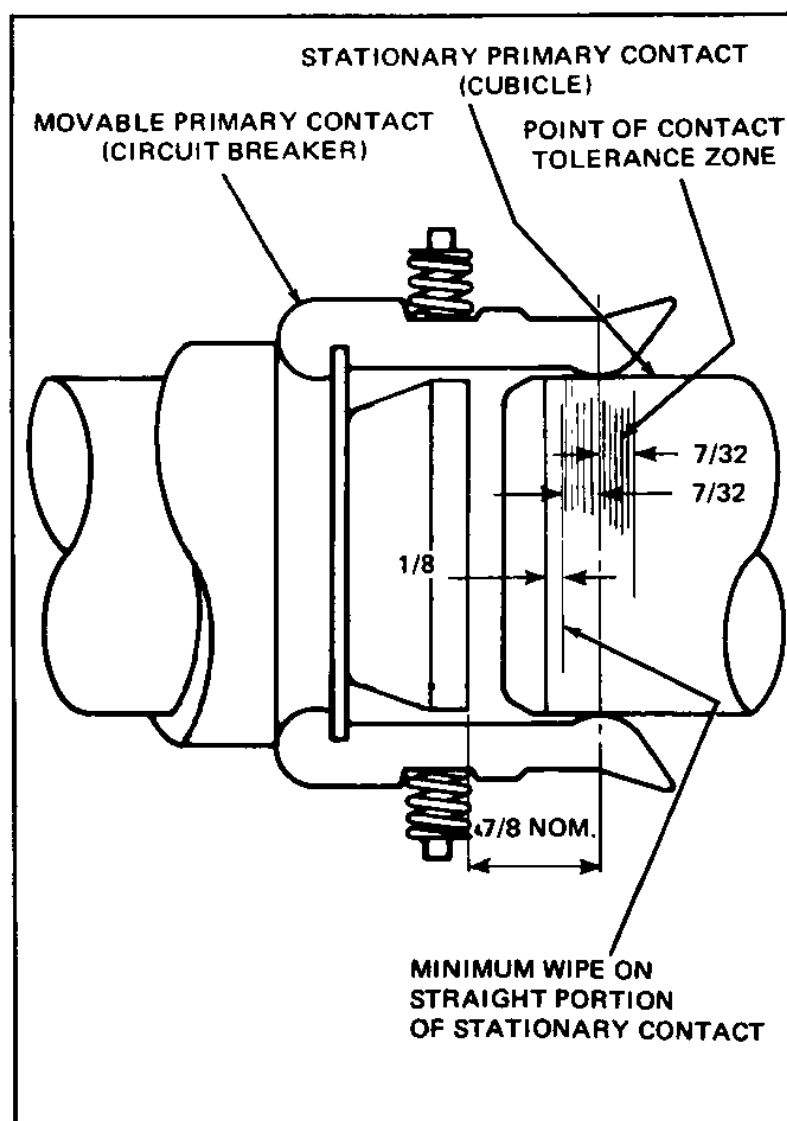

Figure 75. Primary Contact Engagement.
7. Remove breaker from cubicle and check the length of engagement of the primary contact fingers over the straight portion of the contact surface on the stationary contact. The contact point of the fingers must have a minimum wipe of 1/8 inch over the straight portion of the stationary contacts (Figure 75). This can be observed by opening shutters and with a flashlight note the polish marks on the stationary contacts. Remove excess grease from contact fingers.